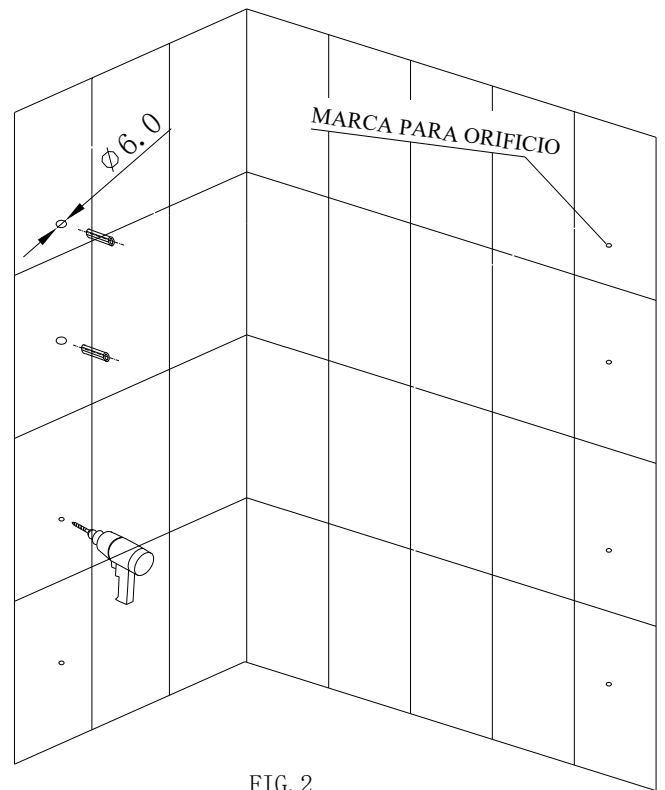

FIG. 2
- 2) Drilling the holes (8-- $\phi 6\text{mm}$) according the mark, insert the 1) plastic plug into the hoes. As Fig.2